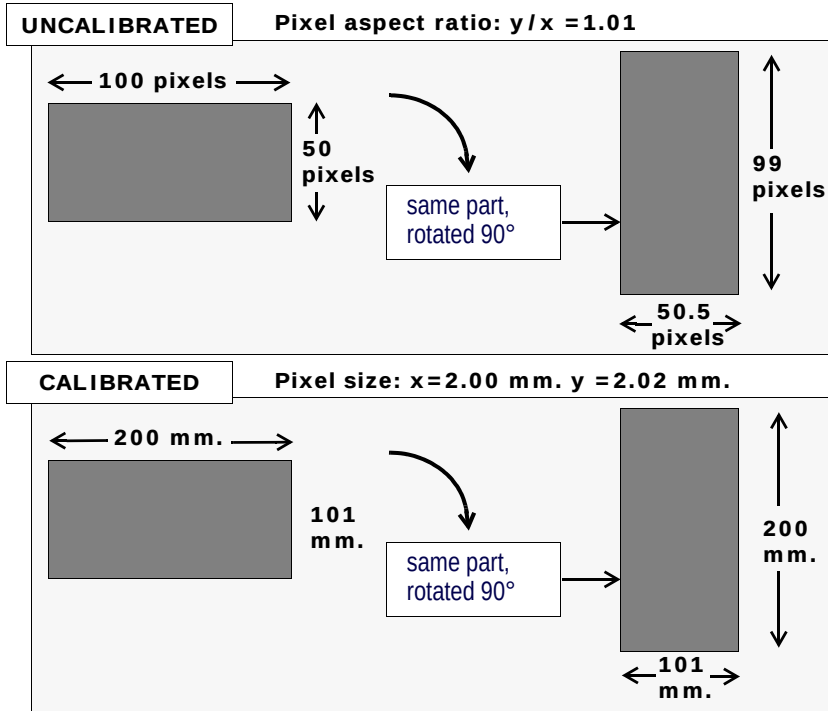

Figure 139 Calibration Required for Accuracy in Results
- The image used to build the Model, as well as the runtime images used to locate the part, should *always be calibrated*. This improves recognition robustness and location accuracy, especially when the parts to be located can be rotated or significantly translated. Figure 139 illustrates the case of an image in which the pixel ratio is not exactly 1:1, as is typically the case. In the given example, if the image is not calibrated, when a part is rotated to 90 degrees, it will be impossible to locate the part to better than 1 pixel in accuracy.